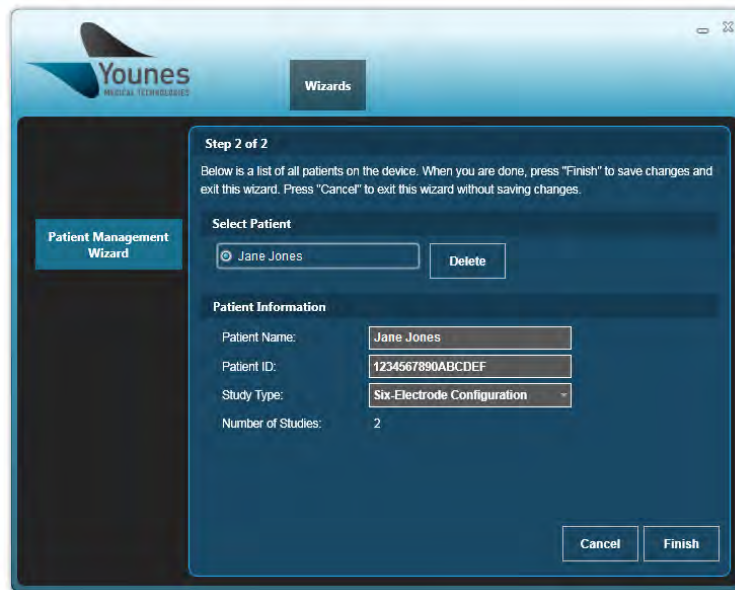
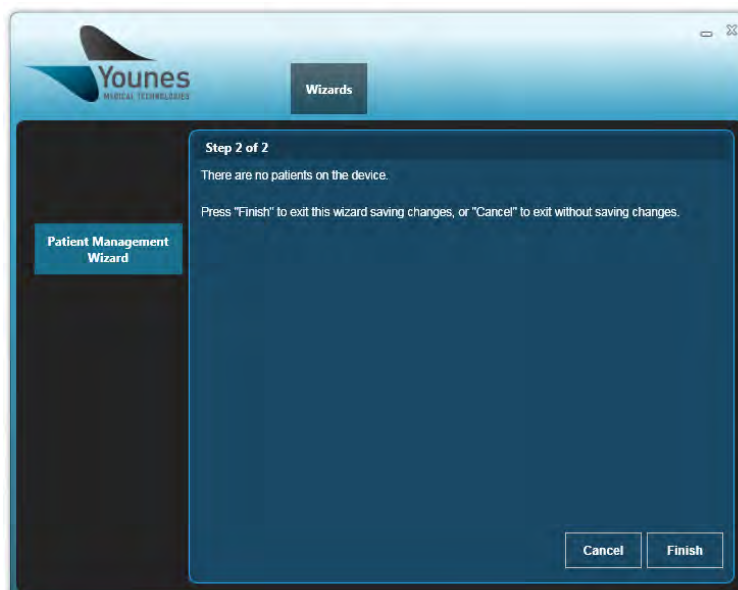

Figure 106 – Windows PC Prodigy Application List of Patients and Patient Information Screen (Patient Management Wizard)
Figure 107 – Windows PC Prodigy Application No Patients Screen (Patient Management Wizard)
4. A list of patients will be provided on the screen, as shown in Figure 106. To delete a patient, select their name and click the “Delete” button.
5. If there are still patients on the Monitor, the screen will appear as shown in Figure 106 with a list of all patients that have not been deleted. As patients are deleted, their names will disappear from the list. Once all patients have been deleted, the screen will appear as shown in Figure 107. Select "Finish" to save your changes or "Cancel" to exit the wizard without saving your changes.